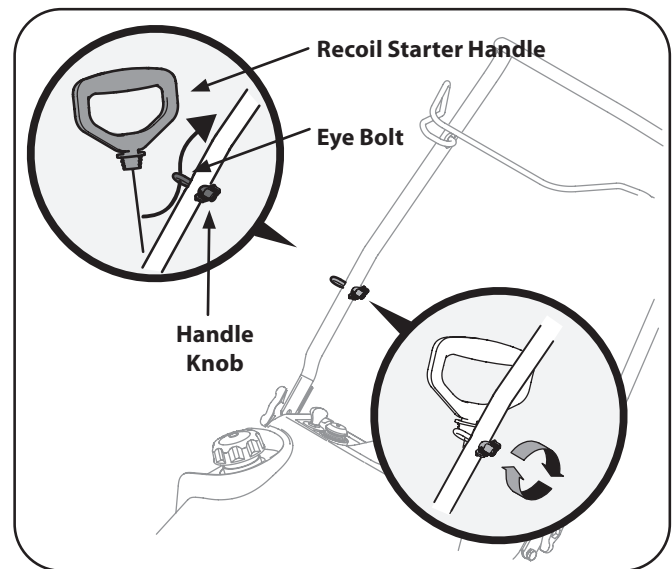

Figure 3-10
2. Place the eye bolt and handle knob on the upper handle as shown in Fig. 3-10. Do not fully tighten the hardware until instructed to do so.
4. Slip the recoil starter rope into the eye bolt from the back of the snow thrower. See Fig. 3-10.